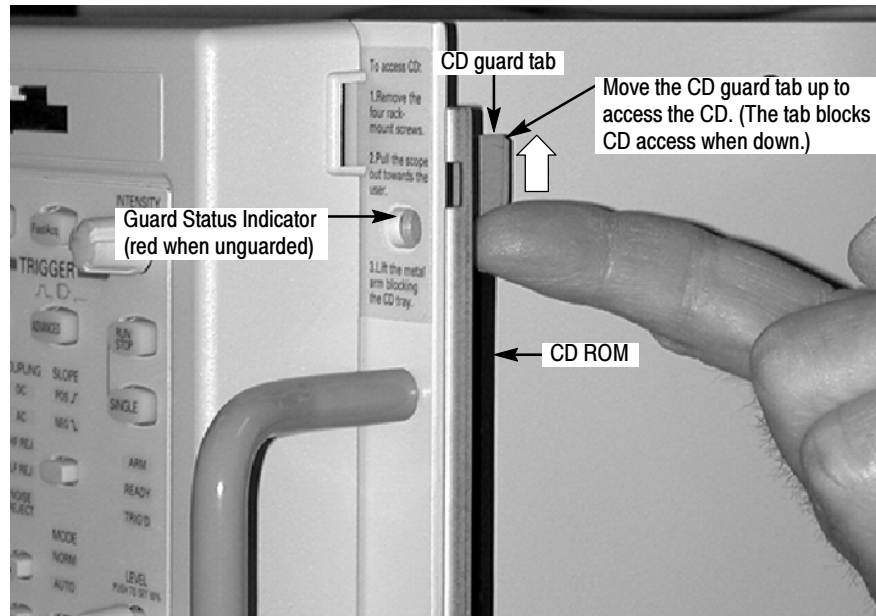

Figure 12: Guard detail
The rackmount kit includes a bracket with a CD guard tab that mounts on the front-right side of the instrument. See Figure 12 on page 24. The guard tab is on the inside edge of the bracket, and prevents the drive from opening when the guard is in the down (guard) position. A guard status indicator on the front of the bracket displays red when the guard is in the up (unguarded) position.
4. When you are done using the CD drive, move the guard down and verify that the red indicator is not showing. See Figure 12.